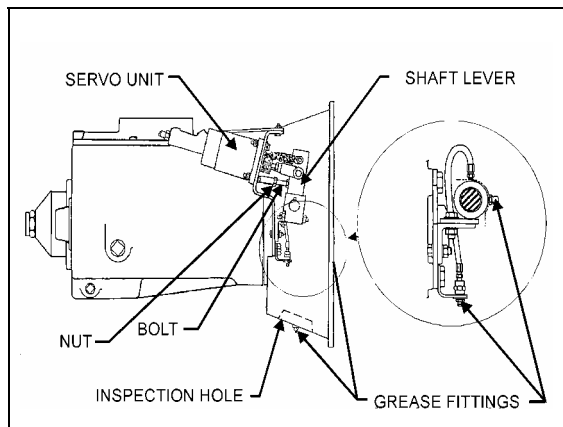

FIGURE 4: CLUTCH INSTALLATION
2. If clearance is incorrect, adjust bolt until it touches the shaft lever and locks in position with nut (Fig. 4).
1. Locate the bleed valve mounted at the end of servo unit. Remove dust cap (Figs. 4 and 6).